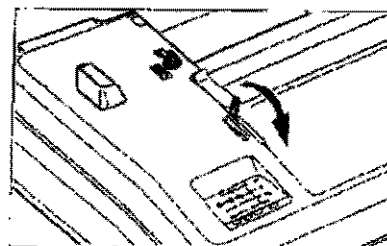

Figure 26
11. The paper thickness lever controls print quality. Placing the lever in the middle of the scale will generally give a good printout. If the printout is too dark or smeared, move the lever further toward the front. If the printout is too light, move it toward the rear of the scale (Figure 26).